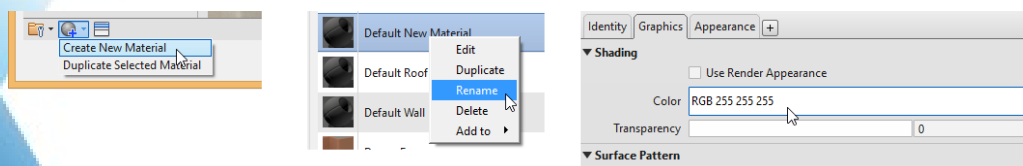

Figure 4—Create a new material assigned to solid white
3. On the Graphics tab on the right, in the Shading area, click the color swatch and then choose solid white. Click OK to accept the color and then click OK again to dismiss the dialog (see Figure 4).